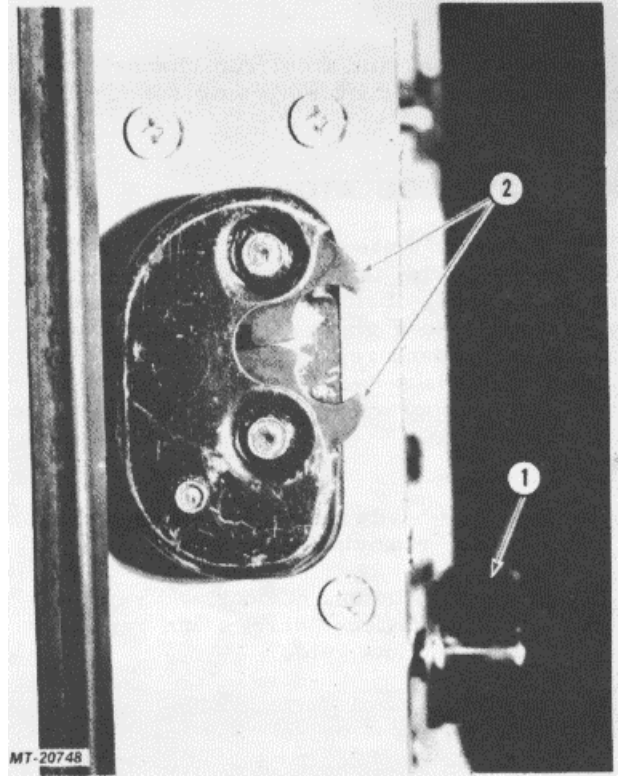
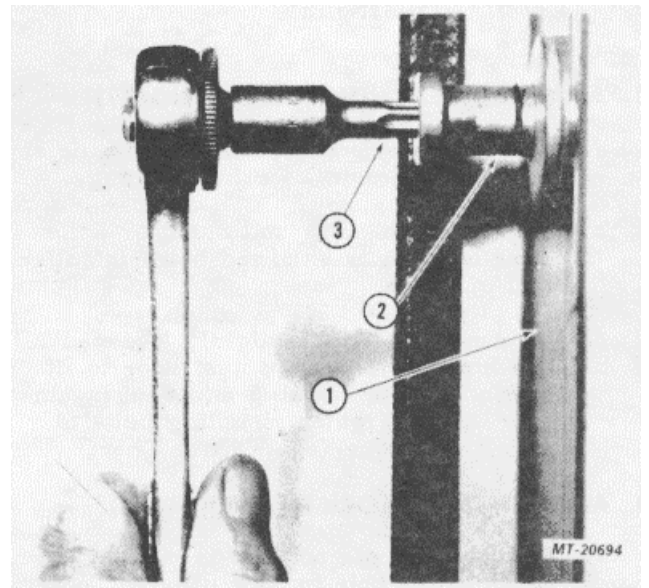

Fig. 20. Door Latch Assembly
Fig. 26. Removing or Installing Door Striker Pin
Door striker pin (Fig. 26) mounted on lock pillar provides for positive engagement with the door latch assembly (Fig. 20). Striker pin removal and installation requires a special driver tool. Enlarged mounting hole in lock pillar permits adjustment.
2. ADJUSTMENT AT LOCK PILLAR (FIG. 26)